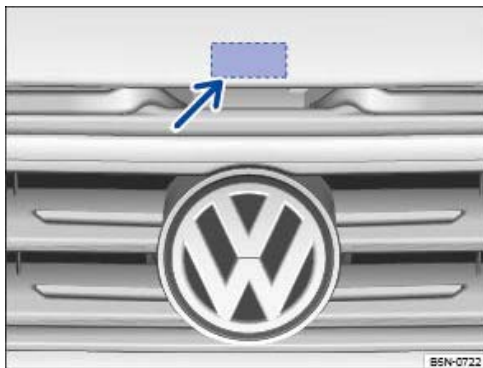

Fig. 254 Above the radiator grille: bonnet control lever.
- Lift the bonnet at the control lever → Fig. 254 (arrow) and open fully. The bonnet is held in the open position by the gas strut.